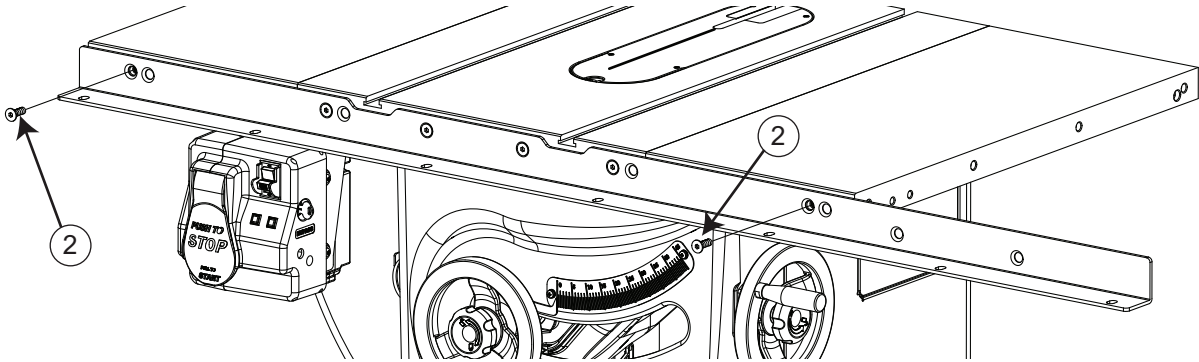

Fig. 3
3. Take two M8x1.25x25 flat-head socket bolts and insert one through the open hole at the end of each extension wing, as shown in Fig. 3.